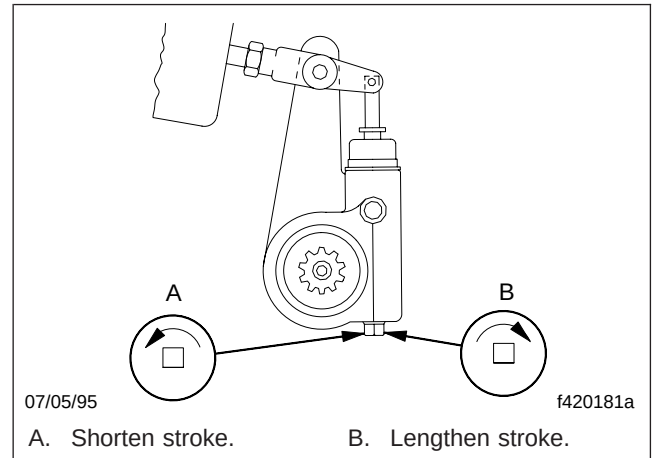

Fig. 9, Brake Stroke Adjusting
- 3.4 Turn the adjusting nut one-eighth turn, as shown in Fig. 9. Measure the stroke again, and adjust until correct.
- 4.4 Turn the adjusting nut one-eighth turn, as shown in Fig. 9. Measure the stroke again, and adjust until correct.